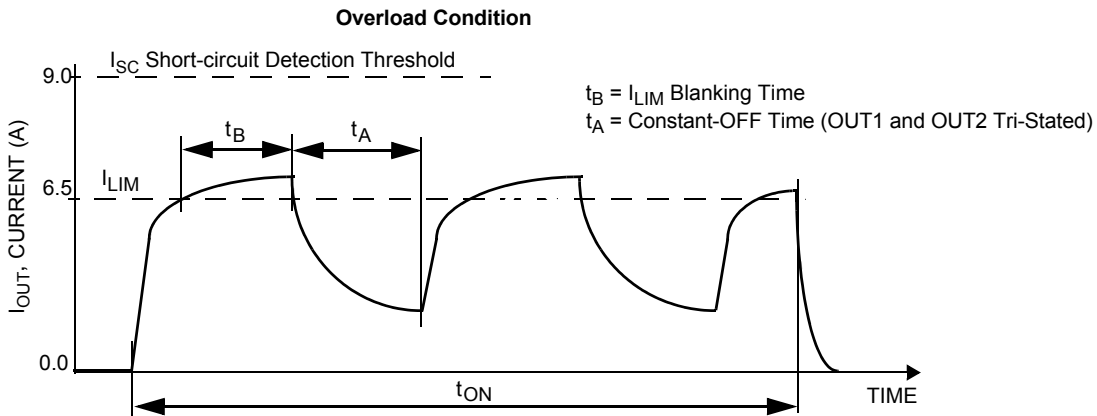
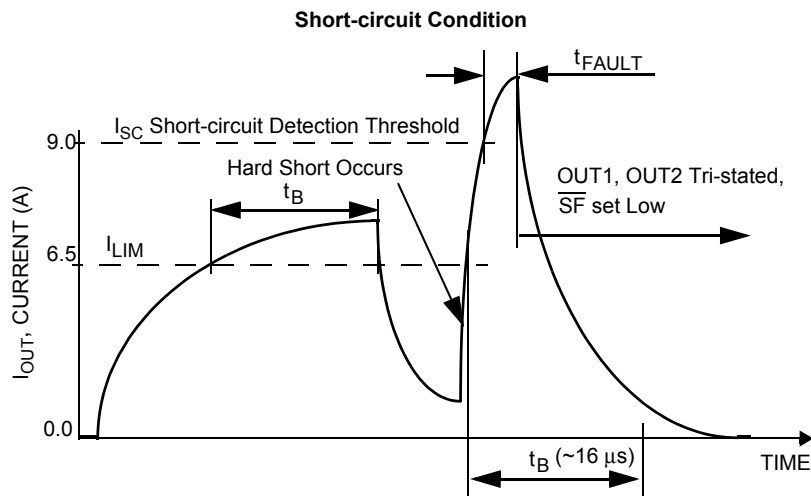
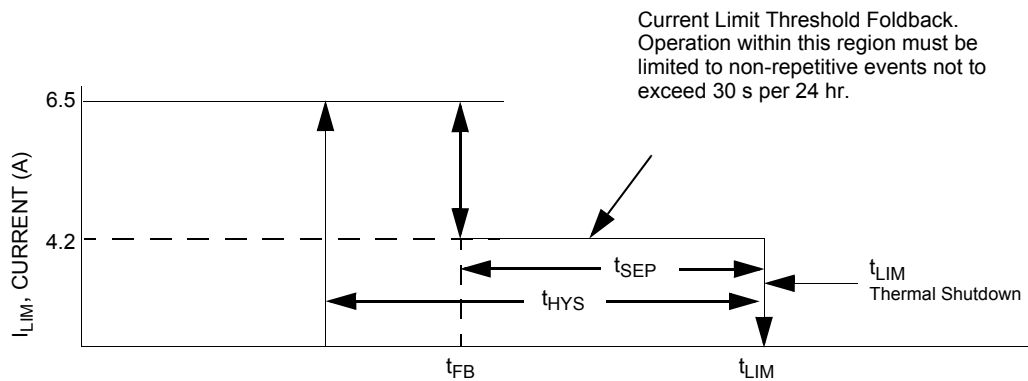

Figure 7. Current limit blanking time and constant-off time
Figure 8. Short-circuit detection turn-off time t_{FAULT}
Figure 9. Output current limiting foldback region
28. Load currents ramping up to the current regulation threshold become limited at the I_{LIM} value (see Figure 7). The short-circuit currents possess a di/dt which ramps up to the I_{SCH} or I_{SCL} threshold during the I_{LIM} blanking time, registering as a short-circuit event detection and causing the shutdown circuitry to force the output into an immediate tri-state latch-OFF (see Figure 8). Operation in Current Limit mode may cause junction temperatures to rise. Junction temperatures above $\sim 160\text{ }^\circ\text{C}$ causes the output current limit threshold to "fold back", or decrease, until $\sim 175\text{ }^\circ\text{C}$ is reached, after which the T_{LIM} thermal latch-OFF occurs. Permissible operation within this fold back region is limited to non-repetitive transient events of duration not to exceed 30 seconds (see Figure 9).